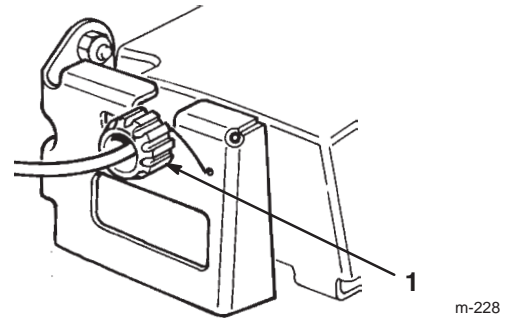

Figure 26
2. Rotate the control knob clockwise 1/2 turn if the lawn mower does not self-propel. If the lawn mower creeps forward, rotate the knob 1/2 turn counterclockwise to loosen the belt (Fig. 26).